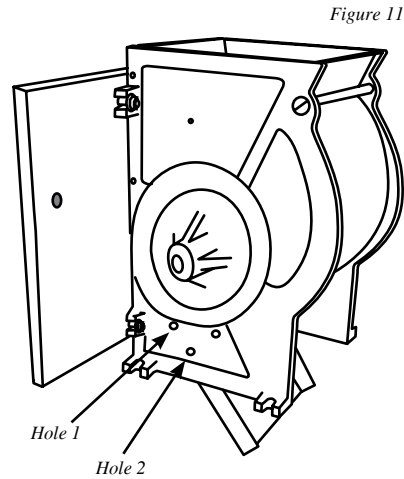

Figure 11
6. Slide the **Chute** up into the **Apple Crusher Body** (Figures 11 & 12).